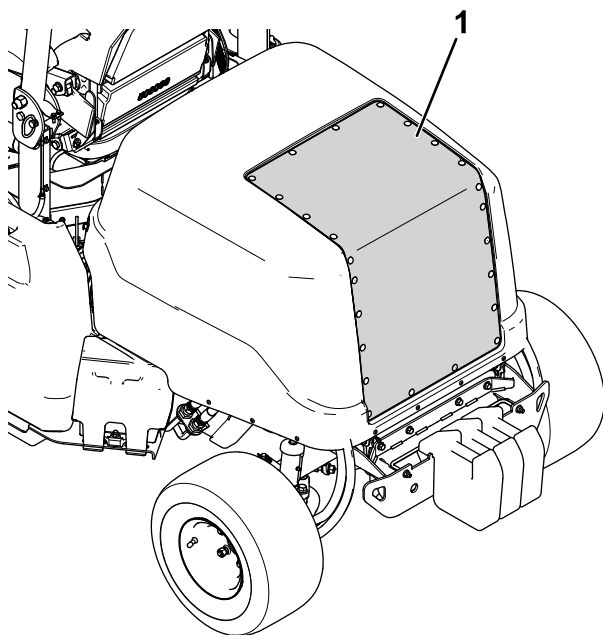

Figure 74
2. Use compressed air to clean the hood screen (shown in Figure 74). Direct the air out from the machine.